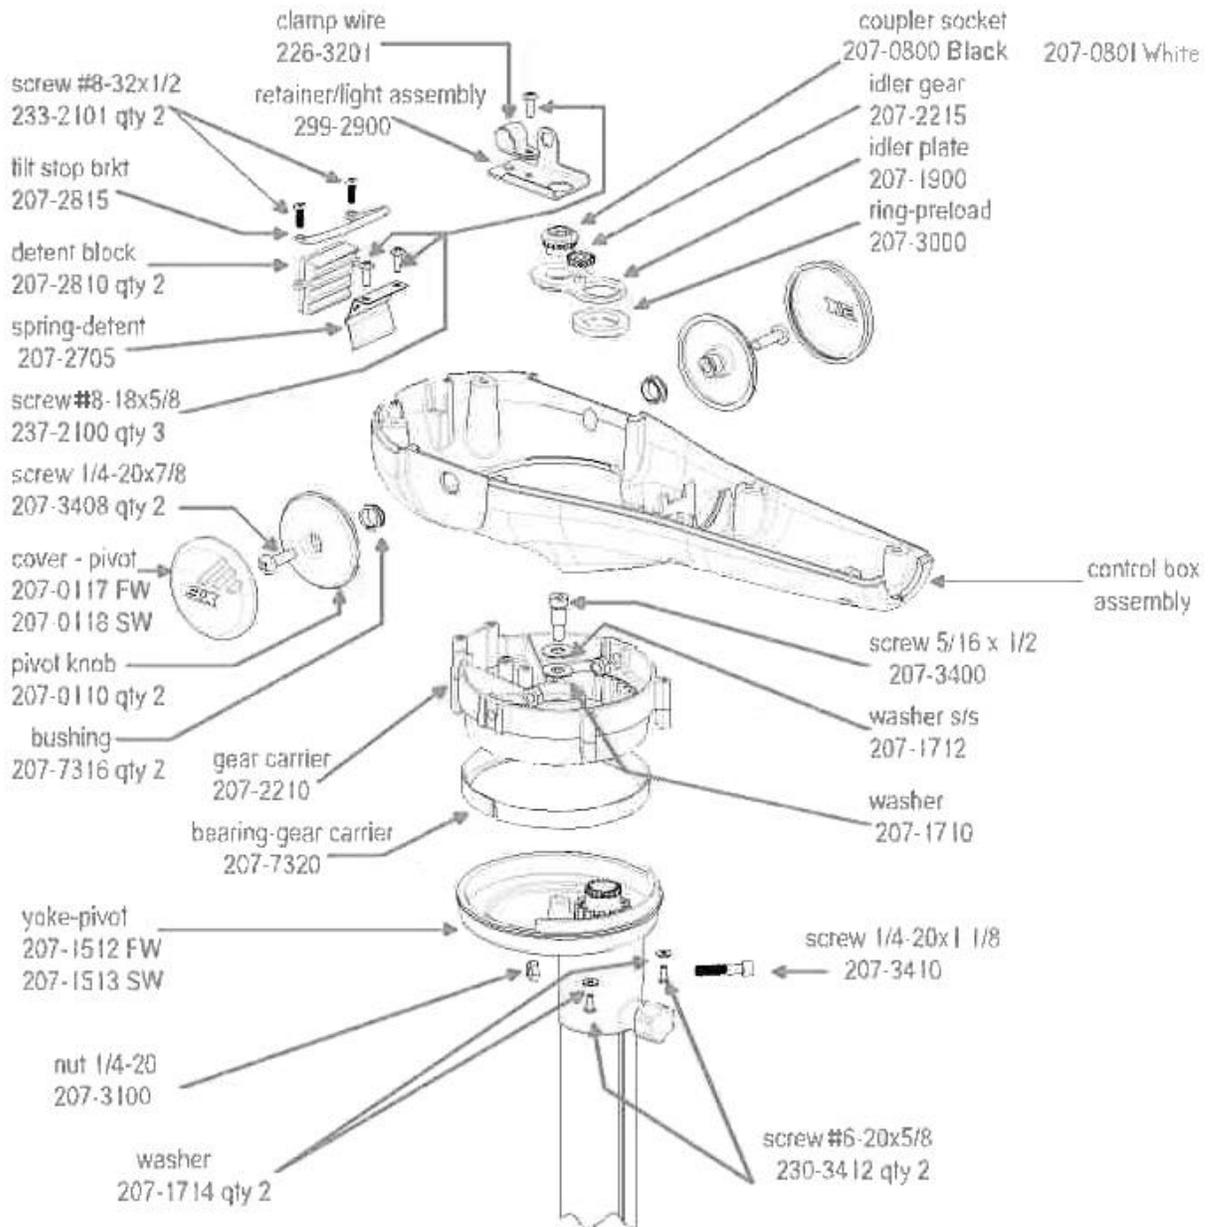

Fig. 4
**Step 5.** Once again, prior to further disassembly, note how the 3X motor wires are routed and held in position by the wire clamp located on the coupler socket retainer / indicator light bracket assembly P/N 2992900. (see Fig. 4, page 5) Also note how the directional indicator light wires are twisted and wire tied to the motor wire to prevent the indicator light wires getting in the circular rack and pinion steering gear mechanism.
- C. After removing the retainer / light assembly, remove the coupler socket, idler gear, idler plate, and preload ring (P/Ns 2070800/2070801, 2072215, 2071900, and 2073000). (see Fig. 4)
- Step 6.** Remove the two P/N 2332101 #8-32 x 1/2" tilt stop bracket / detent block retaining screws, then remove -the P/N 2072815 bracket and P/N 2072810 detent block. (see Fig. 4, page 5)
- Step 7.** Remove the two soft plastic pivot knob covers (P/N 2070117 or 2070118) to expose the two 1/4-20 x 7/8" Phillips head screws (P/N 2073408) that hold the pivot knob and control box assembly on the gear carrier (P/N 2072210) / pivot yoke (P/N 2071512 or 2072513) assembly. (see Fig. 4, page 5)
- A.** Removing the two P/N 2073408 screws (these two screws go in to two nyloc nuts located inside the gear carrier) will allow the control box assembly, pivot knobs, and bushings to be separated from the gear carrier and yoke pivot assembly. (see Fig. 4, page 5)
- Step 8.** With the control box assembly removed, unscrew the 5/16" x 1/2" socket head, shoulder shank cap screw (P/N 2073400) that is located in the center of the gear carrier (P/N 2072210). (A 5-32" allen wrench / driver is required.) (see Fig. 4, page 5)
- A. Remove the cap screw along with the washers, then remove the two P/N 2303412 #6-20 x 5/8" Phillips head screws and P/N 2071714 washers that serve to guide/retain the gear carrier on the pivot yoke. (see Fig. 4, page 5)
**Step 7.** Re-install the control box with bushing and pivot knobs on to the gear carrier pivot yoke assembly. (see Fig. 4, page 5)